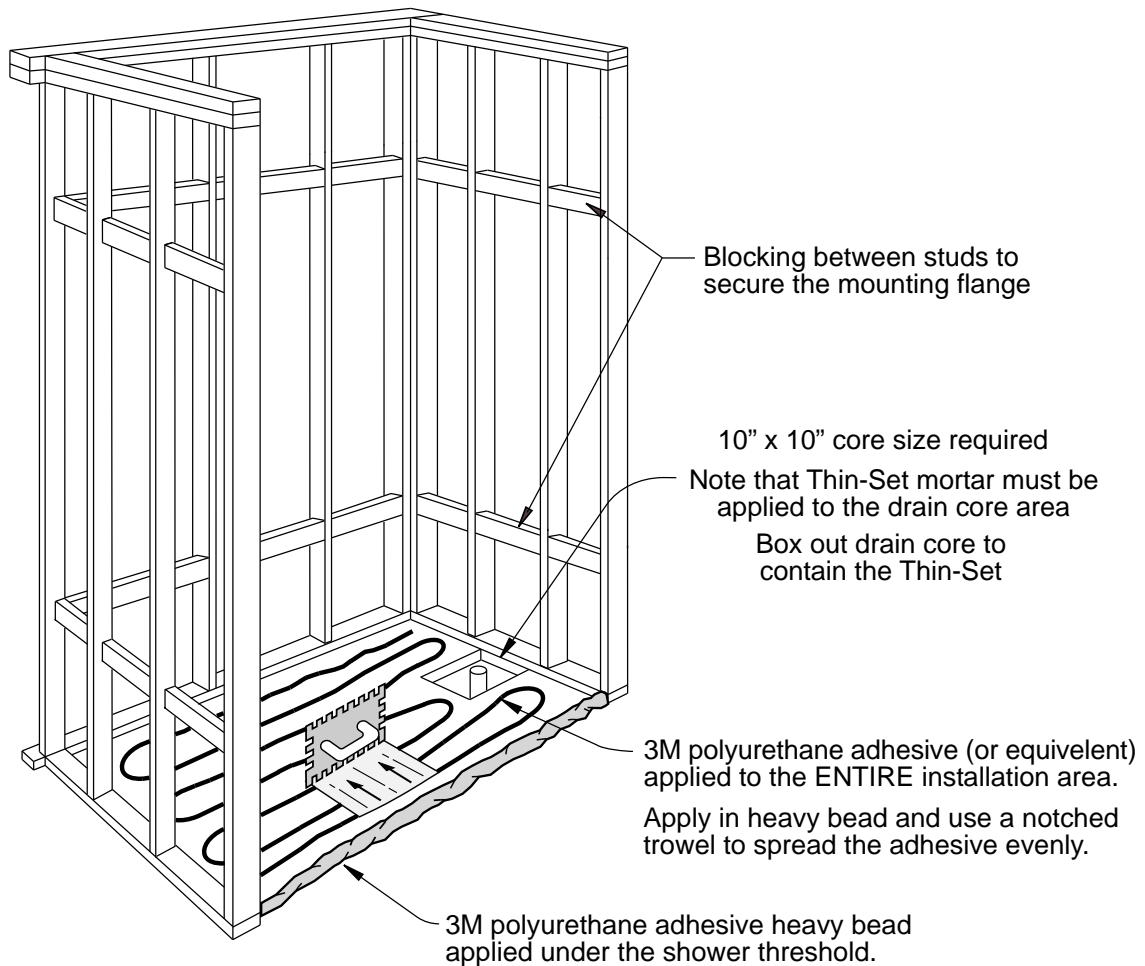

Figure 2
Showers configured with the factory installed Easy Base™ self leveling, reinforced bottom will be installed using panel adhesive. However, wet mud will be used in the drain core area on these units. See Figure 2.
9. Review the framing diagram illustrated in Figure 2. The diagram details the method of installation of the Easy Base self leveling reinforced bottom. When installing, it is **ESSENTIAL** to assure the **ENTIRE** bottom of the shower be securely adhered to the building floor. The shower will not drain properly unless the bottom is properly installed in accordance with these provided installation instructions. Review Figure 2 and read these instructions thoroughly when planning your installation. Failure to install the unit in accordance to these provided instructions will void the warranty.